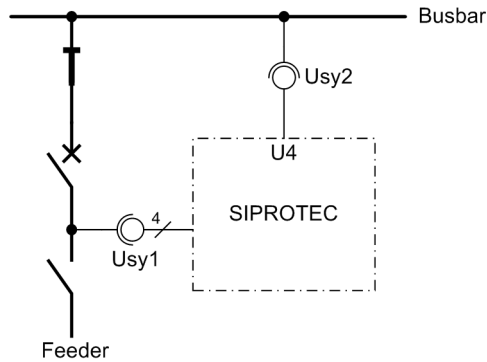

Figure 3-28 Measuring voltages for the synchronism check — Example
- Then the circuit breaker is closed while the line isolator is open (see Figure 3-28). Both voltage transformers therefore measure the same voltage.